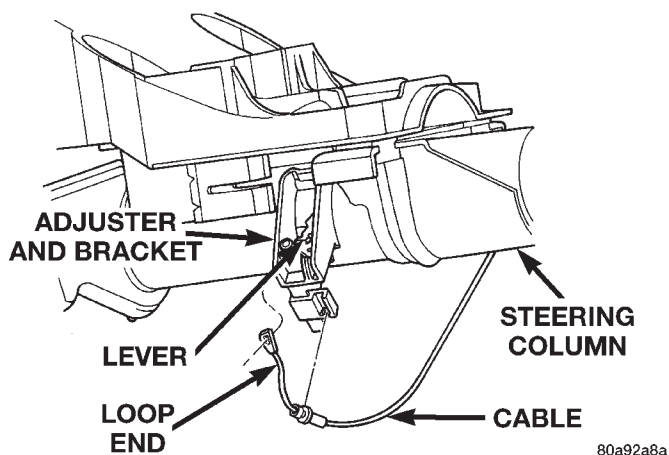

Fig. 10 Gear Selector Indicator Cable Remove/Install
(5) Remove the steering column opening cover and knee blocker from the instrument panel. See Steering Column Opening Cover and Knee Blocker in the Removal and Installation section of this group for the procedures.
(6) Disengage the loop end of the gear selector indicator cable from the lever on the left side of the steering column (Fig. 10).